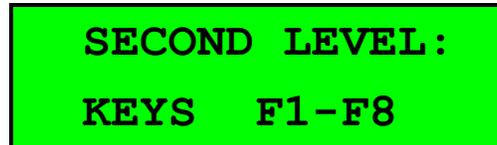

Figure 21 — Second Level Key Mode Screen
- (2) Using the numeric keypad enter access code number "1221" and if the access code is correct, the second level key mode screen will appear as shown in Figure 21.
- (3) Once in the second level key mode, the user can select any of the function keys <F1> through <F8> to modify parameters. Refer to the *KC640 Central Control Unit (CCU) Features* section at the beginning of this chapter to learn about all available function key options.